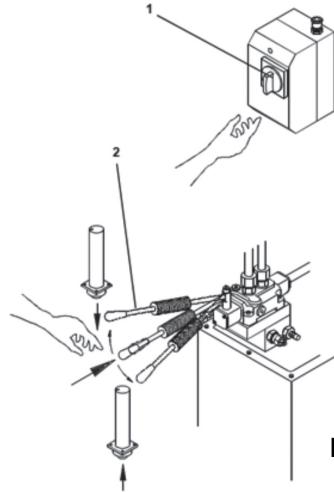

Fig 7
- Operate on/off switch (1) of the control unit (Fig. 7).
- Operate the lever (2) by pushing it and keeping it pressed towards the hydraulic unit, then raise or lower the lever itself to move the piston.